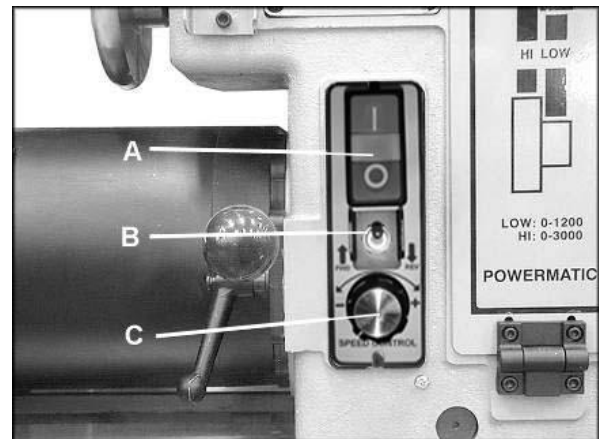
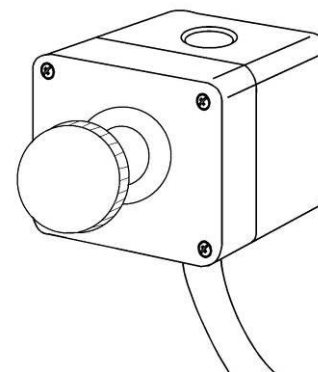

Fig 13
Fig 14
You can start the machine with the green ON-button. The red Off-button stops the machine. (A, Fig 13).
The machine will stop when you push the red OFF-button (A, Fig 13) or the remote control ON/OFF button (Fig 14).
**When remote switch is pushed, cycle the green ON-button (A, Fig 13) on headstock to restart lathe.**